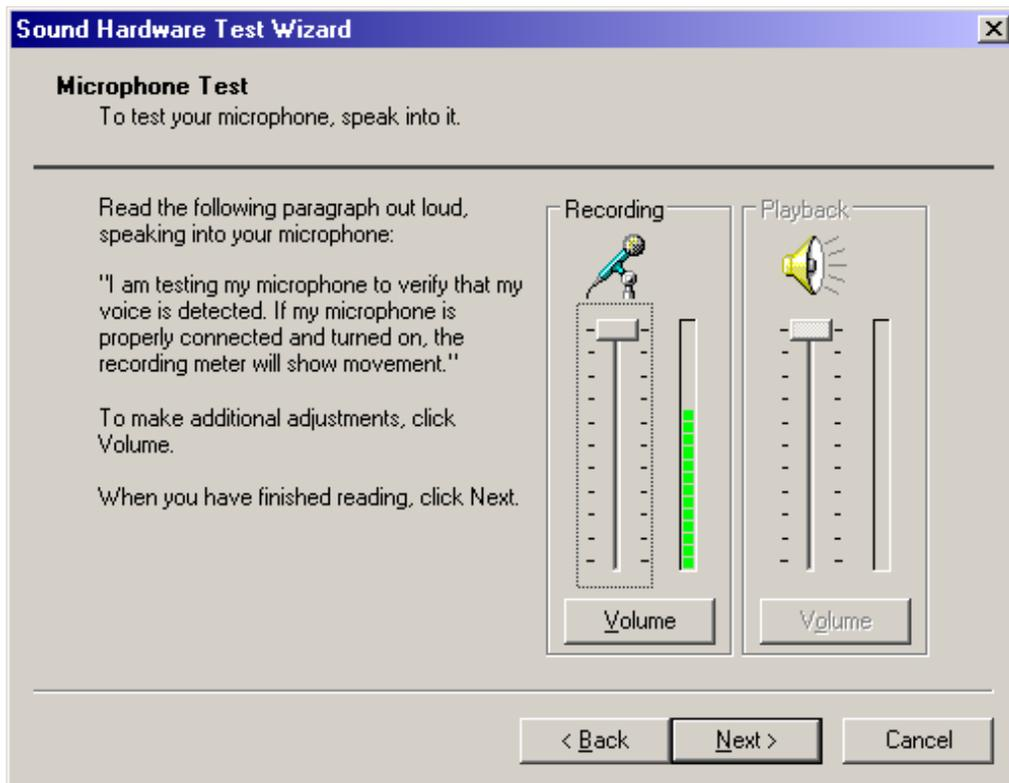

Figure 276. Microphone Test window
9. After the sound hardware test is complete, a new window appears for the Microphone Test, as shown in Figure 276.